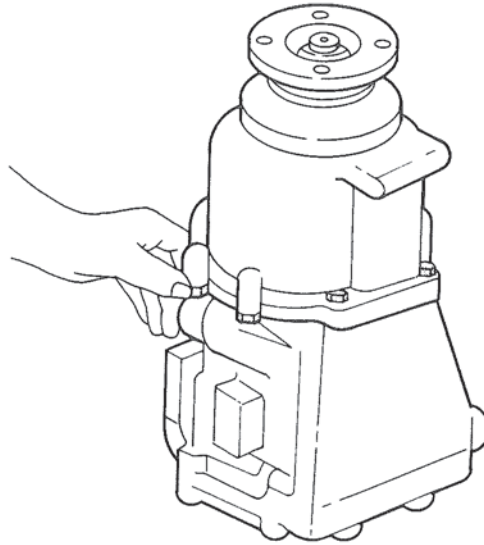

Figure 29. Securing Reduction Unit.
10. Install the two (2) 7/16 - 14 x 1-3/4 hex head bolts and 7/16 lockwashers, and the six (6) 3/8 - 16 x 1-1/8 hex head bolts and 3/8 lockwashers. Figure 29. Tighten the 7/16 bolts to 40-45 ft. lbs. (5.52-6.21 kg/m) and the 3/8 bolts to 28-30 ft. lbs. (3.86-4.14 kg/m).